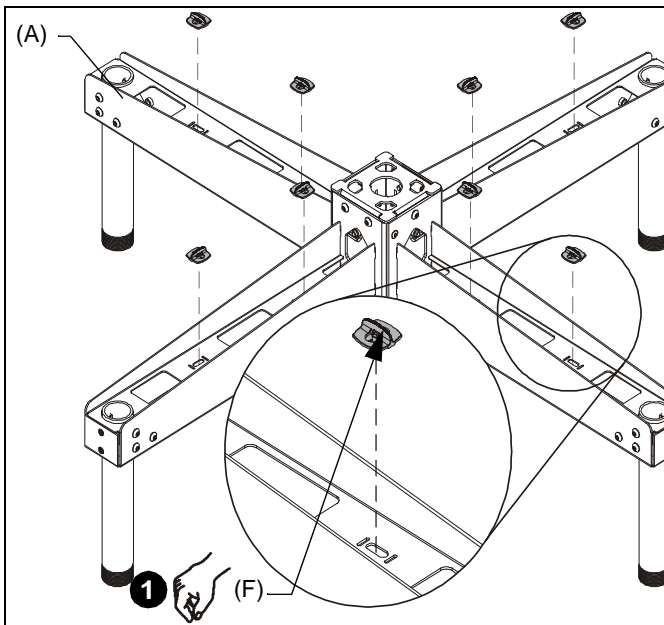

Figure 1
1. **OPTIONAL:** Add cable zip clips (F) to each arm of quad ceiling accessory (A). (See Figure 1)